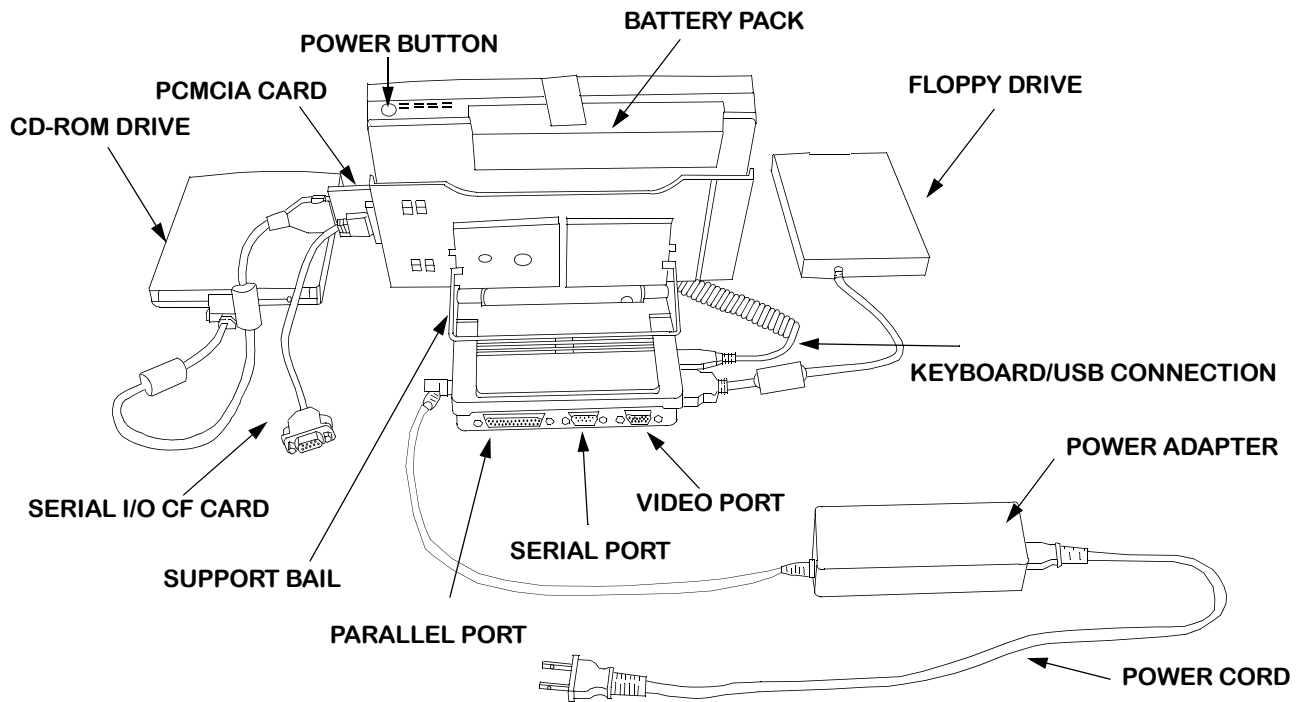

Figure 6 Pen Tablet Mini-Dock Station (Rear)
- a. Use **Figure 5** and **Figure 6** as a guide when performing Mini-Dock station installation.
- b. Ensure support bail is snapped into one of four slots on the rear of the Mini-Dock station, refer to **Figure 6**.